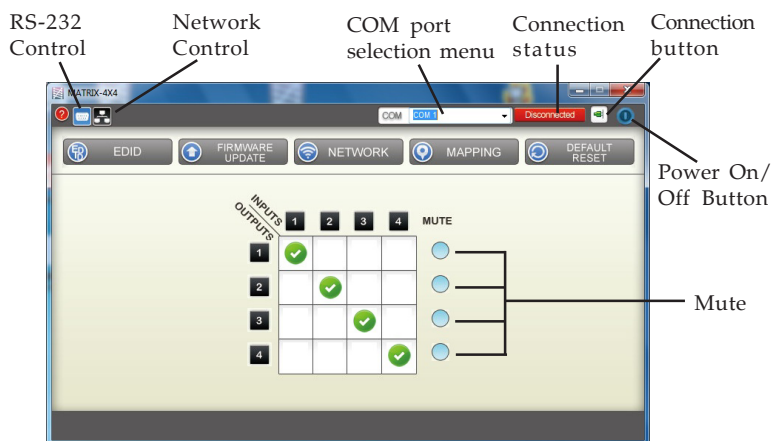

Figure 5
2. Select your COM port from the **COM port selection menu**, then click the **Connection button**. See Figure 5 on page 11.